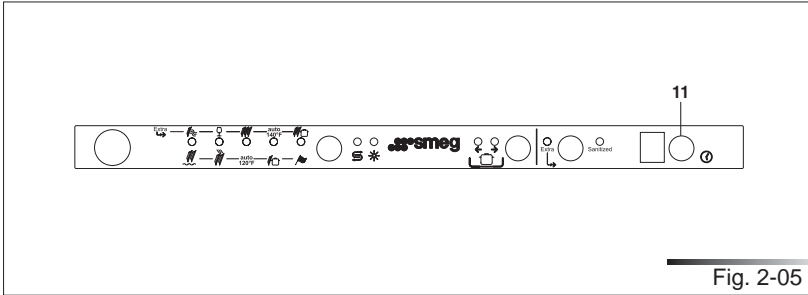

Fig. 2-05
Press and hold down the **program delay** button (ref. 11 fig. 2-05) until the preset value appears followed by a dot (normally **3.**). Release the button and then press it again and again until the required value is displayed, as indicated in the table (see tab. 2-03).